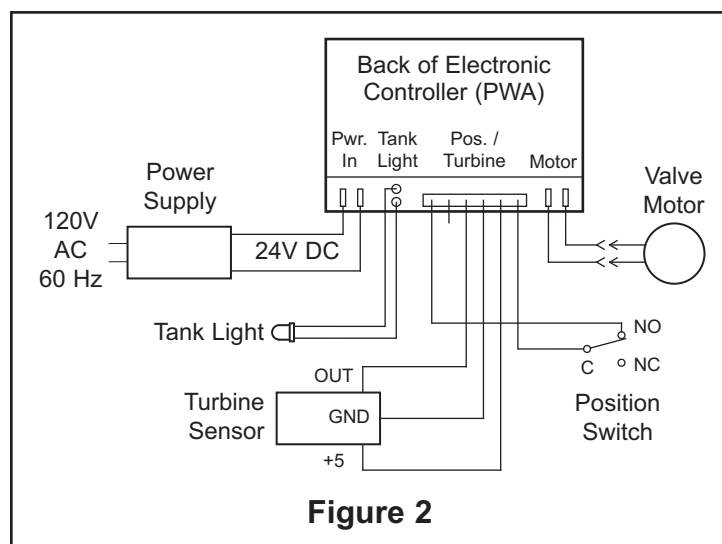

Figure 2
3. Unplug the wiring connections from the back of the old Electronic Control Board (See Figure 2).
6. Reconnect the wiring to the new board (See Fig. 2).